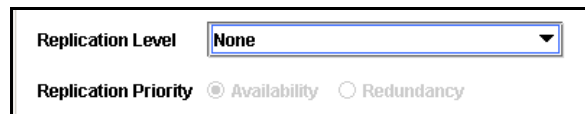

Figure 170. Setting Replication to None
9. Select a replication priority. If you select a replication level of None, the replication priority must be Availability. See Figure 170.